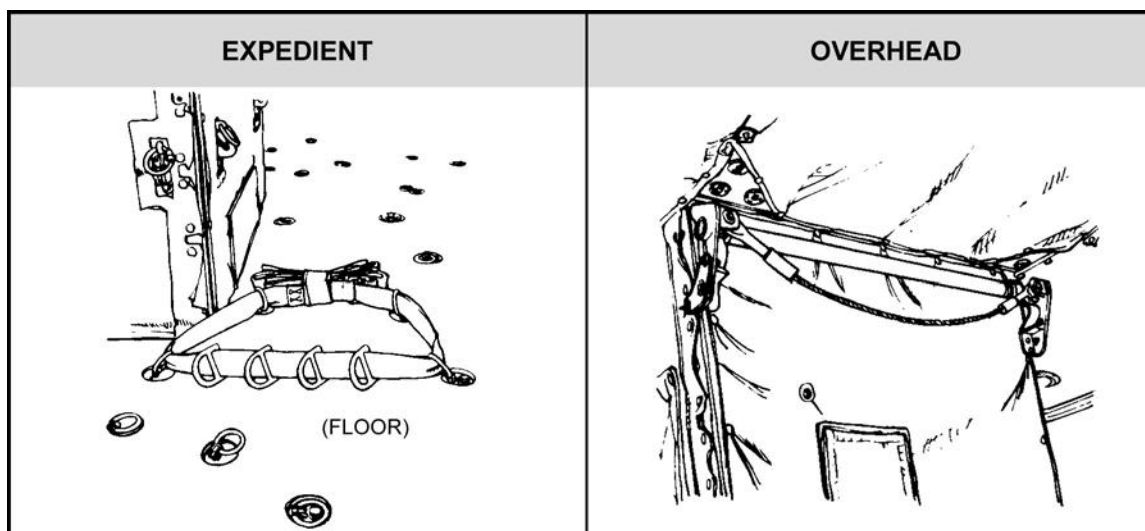

Figure 17-3. UH-1 anchor line system.
b. **Anchor Line Systems.** Two anchor line systems are available with the UH-1H aircraft for airdrop of personnel. They are the **standard overhead system** and the **expedient system** (Figure 17-3, page 17-4). The expedient system (modified STABO strap or Type XXVI nylon webbing anchor line cable assembly) consists of a nylon A-7A strap, four D-rings, and four connector snaps (TM 10-1670-298-20&P authorized the fabrication of the modified STABO strap or Type XXVI nylon webbing strap from Type XIII nylon webbing). Nylon modified STABO straps or Type XXVI nylon webbing must be used with cotton buffers on the D-rings and connector snaps.